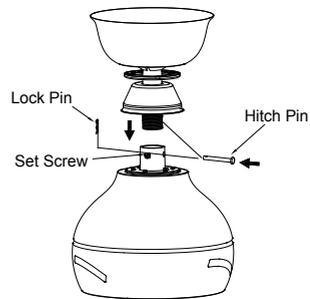

Fig. 7
**Step 4.** Install the two set screws on the top coupling of the motor assembly. Carefully feed the fan wires up through the downrod, coupling cover, canopy trim cover and canopy. Threaded the downrod onto the motor coupling until the hitch pin holes are aligned. Next, replace the lock pin and hitch pin, and tighten both set screws. (Fig. 7) Carefully reinstall the hanger ball onto the downrod. Make sure the cross pin is in the correct position and the set screw is tight and the wires are not twisted.